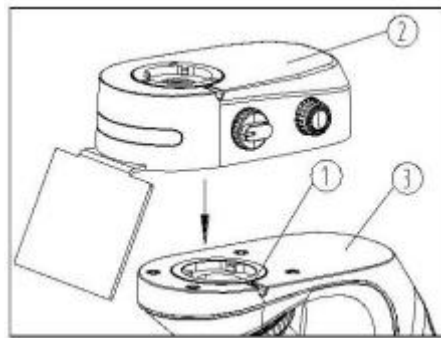

Figure 15
- 1) Completely loosen the locking screw (①) of the observation head.
- 2) Position the dovetail interface at the bottom of the LED fluorescence illuminator (②) onto the interface seat of the mirror body (③). Secure it using the locking screw (①) with a hexagon spanner. (See Fig. 15)